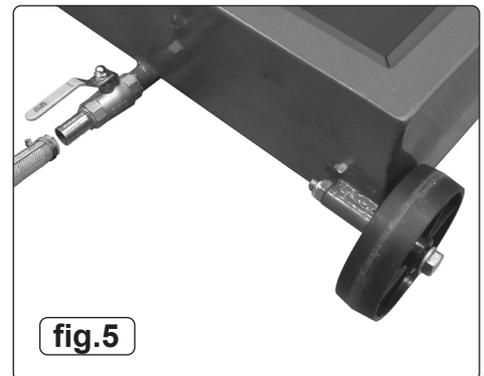

fig.5
- 5.3.1. **GRAVITY DISCHARGE (AK467D)** Attach the discharge hose to the outlet valve at the rear end of the drainer and secure it with the worm drive clip provided. See fig.5. Place the other end of the pipe into a suitable container set at a lower level than the drainer pan and open the outlet valve. When the drainer pan is empty close the valve.